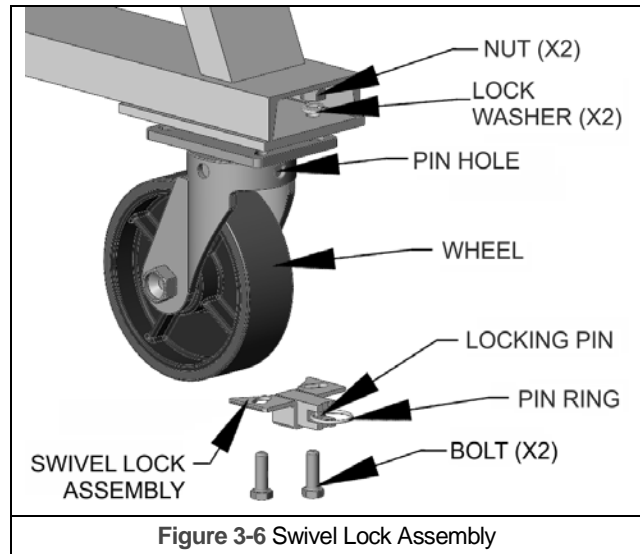

Figure 3-6 Swivel Lock Assembly
- 3.3.1 Refer to **Figure 3-6**.